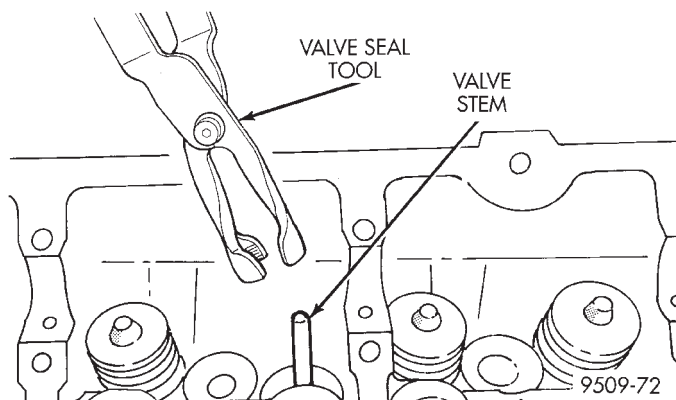

Fig. 101 Valve Stem Oil Seal Tool
(1) Coat valve stems with clean engine oil and insert in cylinder head.
(2) Install new valve stem seals on all valves using a valve stem seal tool (Fig. 101). The valve stem seals should be pushed firmly and squarely over valve guide.